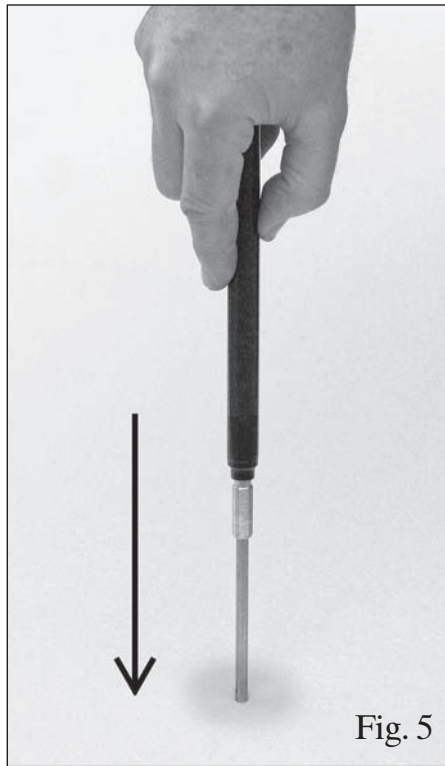

Fig. 5
10. Press the piston rod (3) on the cooled cylinder (1) into the cylinder by holding it against a table top or the floor – see fig.5